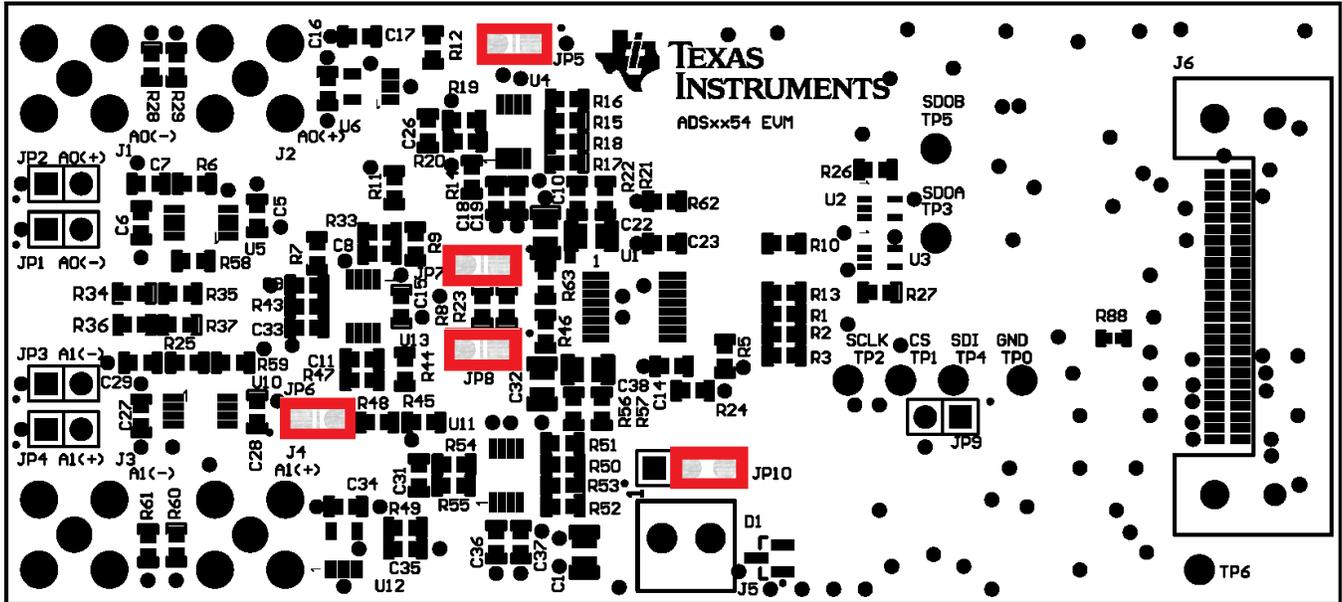

Figure 4. ADSxx54EVM Default Jumper Settings
A silkscreen plot detailing the default jumper settings is shown in Figure 4. Table 6 explains the configuration for these jumpers.
- Step 2. Verify the ADSxx54EVM jumpers are configured as shown in Figure 4.